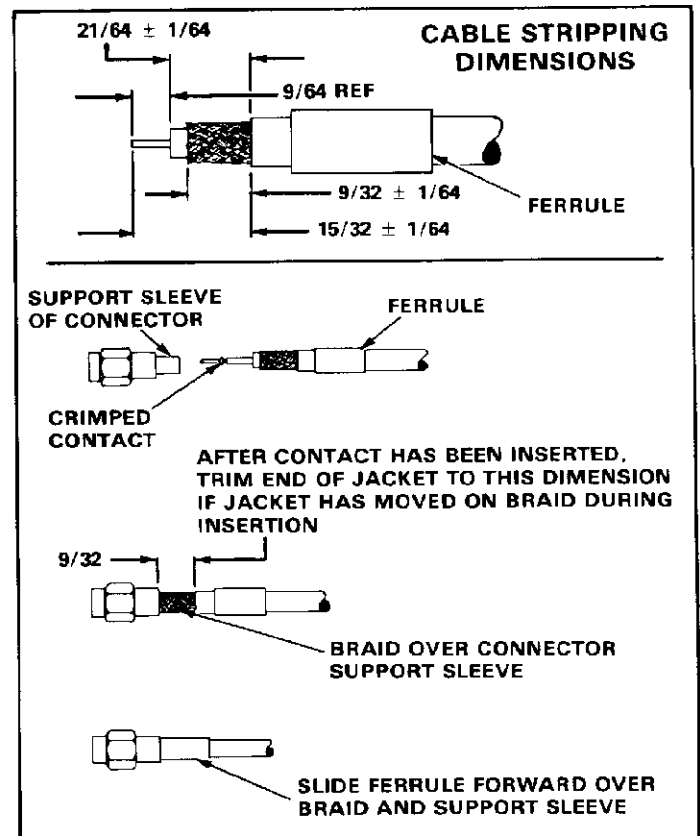

Fig. I-2
1. Slip ferrule onto cable, and strip cable to dimensions shown in Figure I-2.